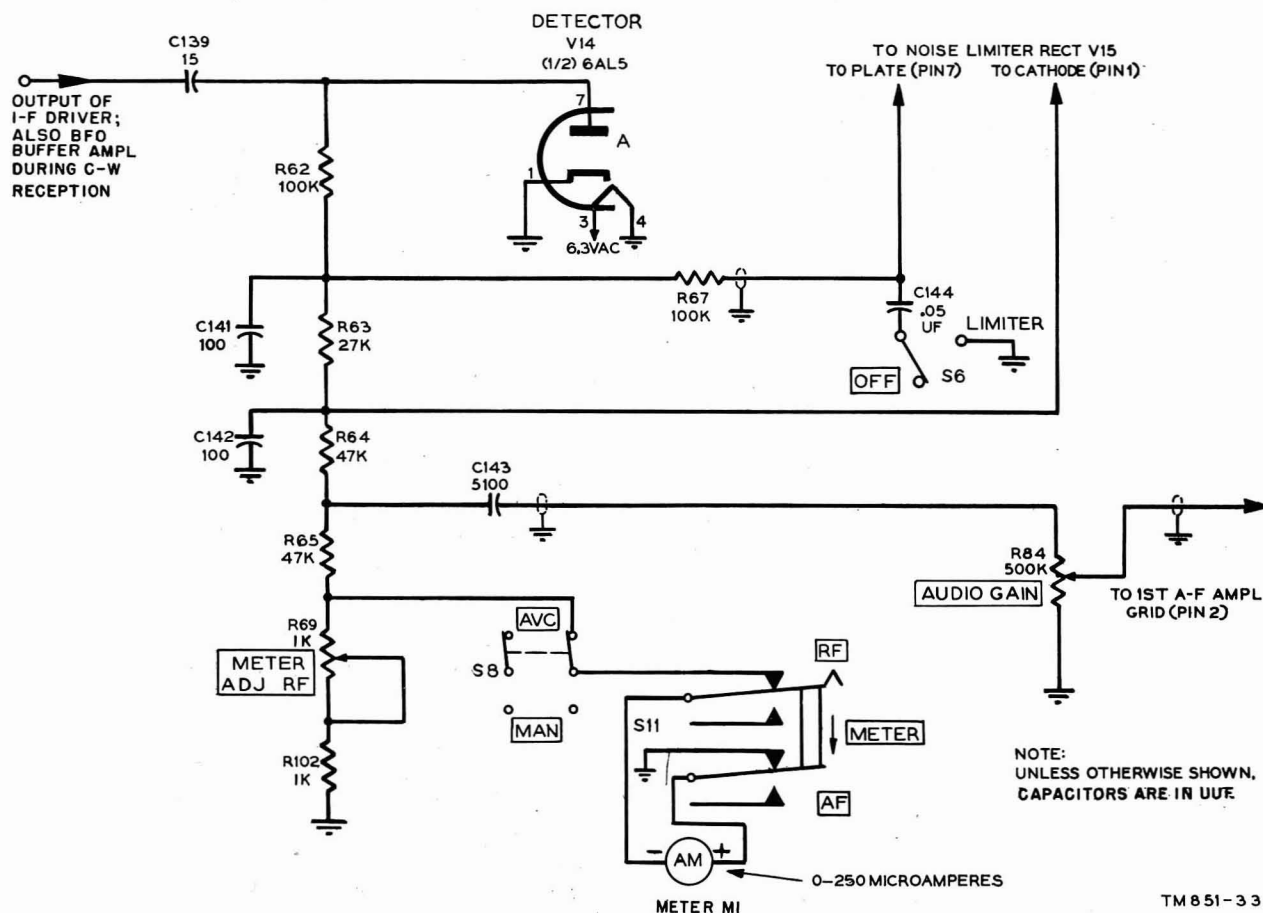
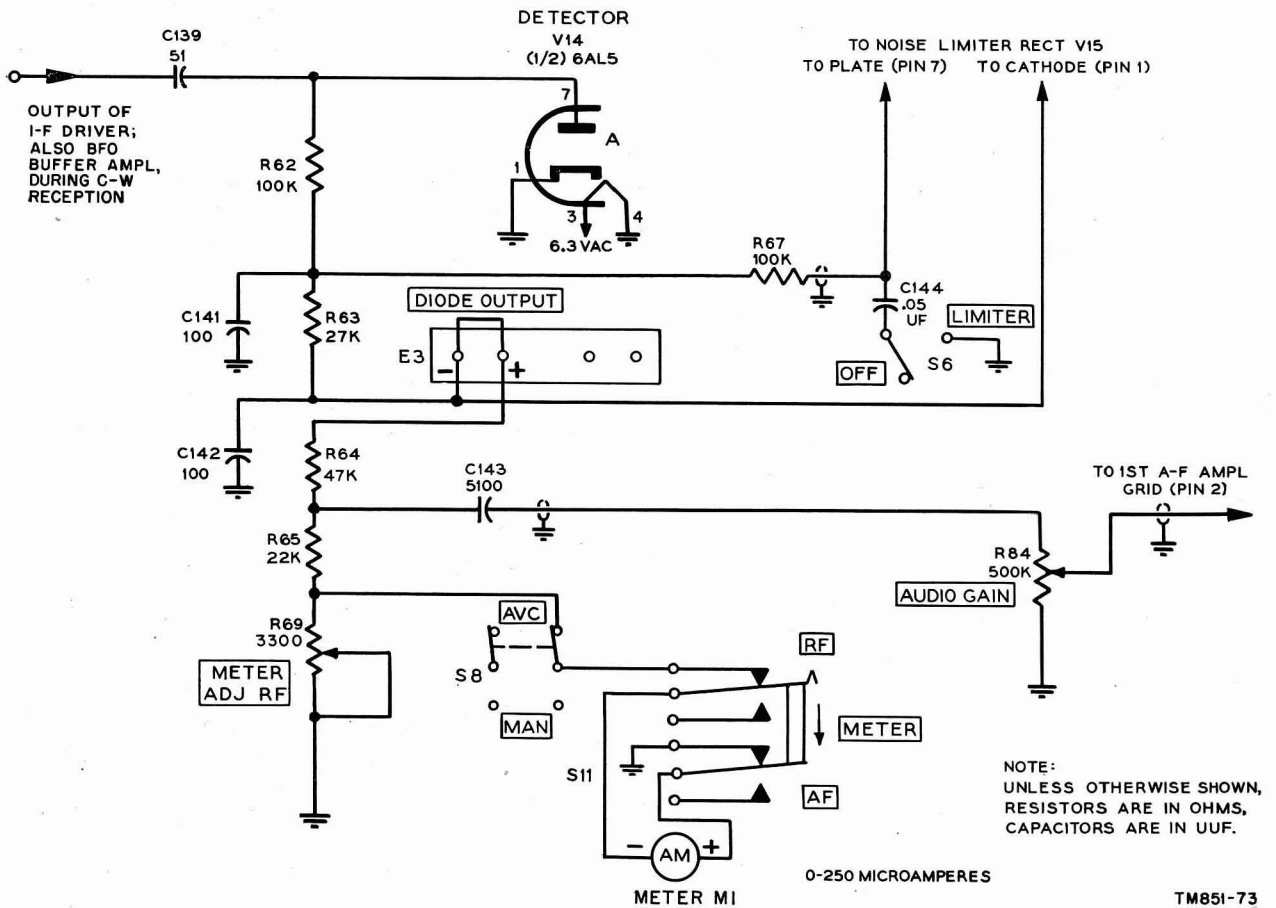

Figure 40. Radio Receivers R-483/FRR, R-274A/FRR, and R-320A/FRC, schematic diagram of detector.
Figure 41. Radio Receivers R-483A/FRR and R-274C/FRR, schematic diagram of detector.
(figs. 40 and 41)
a. Detector V14A functions to extract the original intelligence from the signal carrier tuned in. It is a diode type that provides a minimum of distortion that actually decreases with an increase in the input signal level. The d-c loading of V14A is the series combination of resistors R62, R63, R64, R65, potentiometer R69, and R102 (fig. 40). In figure 41, R102 is omitted and R69 is 3,300 ohms. Also, when AVC-MAN switch S8 is in the AVC position, the resistance of meter M1, in parallel with R69 and R102 (fig. 40 only), is part of the d-c load. The a-c loading of V14A, because of capacitors C141 and C142, is almost negligible, since each presents a high capacitive reactance at audio frequencies as compared to the effective resistance in parallel to them. The a-c loading of V14A, because of capacitor C143, is almost negligible, since the low capacitive reactance it presents at audio frequencies is in series with the high resistance of AUDIO GAIN control R84, and since both are in shunt with the low resistance presented by the series combination of R65, R69, and R102 (fig. 40 only). When LIMITER-OFF switch S6 is in the LIMITER position, the a-c loading of V14A, because of the low capacitive reactance of capacitor C144, is overcome by resistor R67 in series with C144. However, unless the noise actually impairs reception, the LIMITER-OFF switch should be placed in the OFF position.
e. The DIODE OUTPUT terminal board E3 (fig. 41) provides for use of the receiver d-c output to operate recording equipment associated with the receiver. Also, when two receivers are connected for space diversity system use, the jumpered terminal at E3, when opened for one receiver, provides for the other receiver to develop the space diversity output (par. 4d and e). Radio Receiver R-320A/FRC, like Radio Receivers R-483A/FRR and R-274C/FRR, incorporates DIODE OUTPUT terminal board E3.